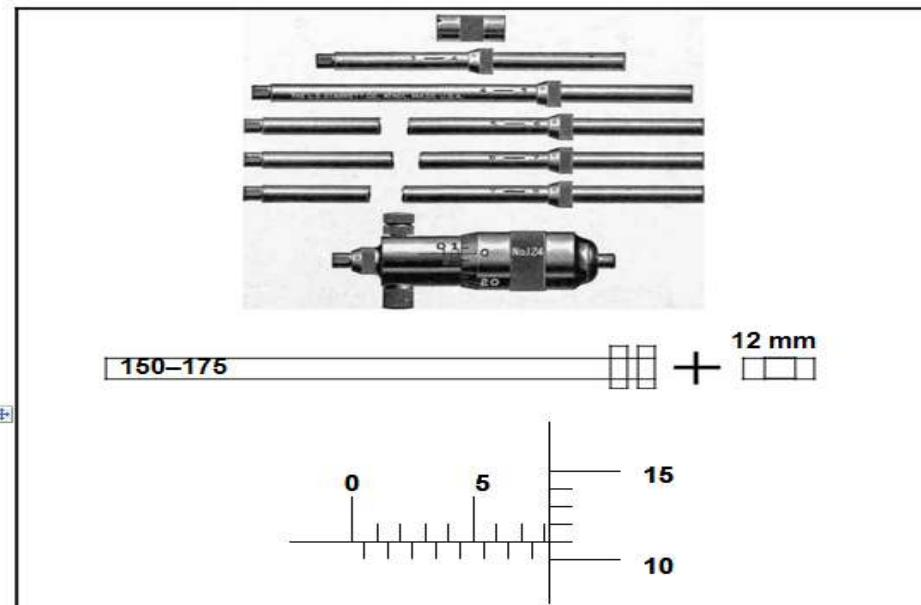

FIGURE 5.1 (3)
5.3 Determine the reading displayed on the inside micrometer shown in FIGURE 5.1 below.
12.4 FIGURE 5.1 below shows a cross-sectional view of a blast furnace. Label A–J.